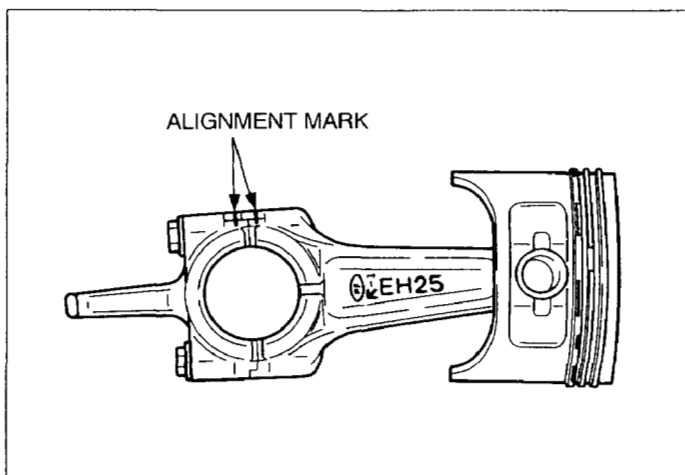

Fig. 5-33
- (1) Turn crankshaft to bottom dead center, lightly tap top of the piston until large end of the rod meet crankpin.
(2) Install the connecting rod cap to the connecting rod matching alignment marks. (See Fig. 5-33.)